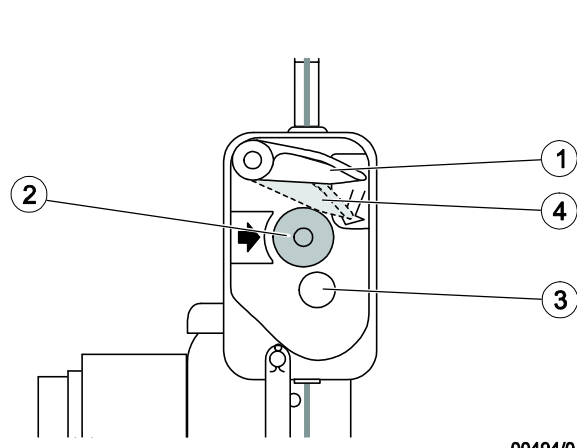

Fig. 33: BSO secondary brake
- (2) To reset BSO secondary brake: Raise the platform until the hoist supports the load. Push the control lever in the OPEN position (4) (Fig. 33).